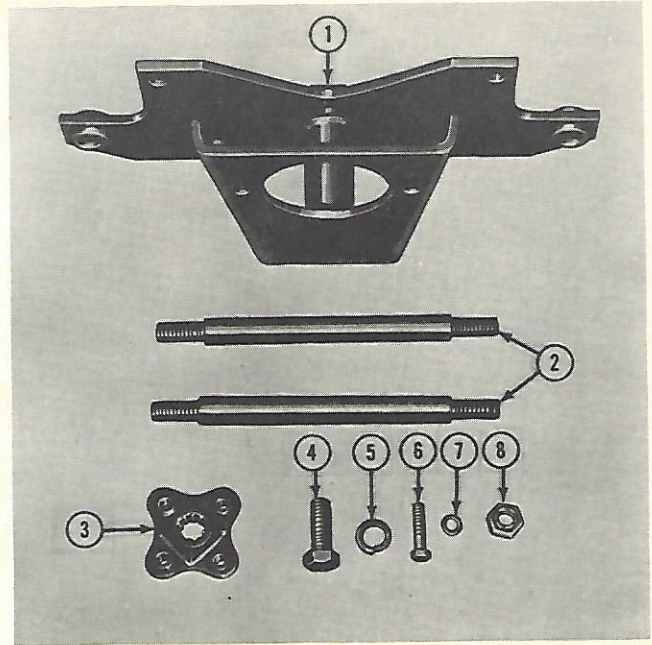

Figure 3
The Loader Attaching Kit, Component No. 19-341, consists of the following parts. See Figure 3.
2. Position four $7/16'' \times 1-1/2''$ hex head bolts and lock washers in the hub assembly (3), Figure 3. Position the assembly on the front of the crankshaft pulley. Care must be taken to position the hub without dropping the hex head bolts or moving the crankshaft pulley.